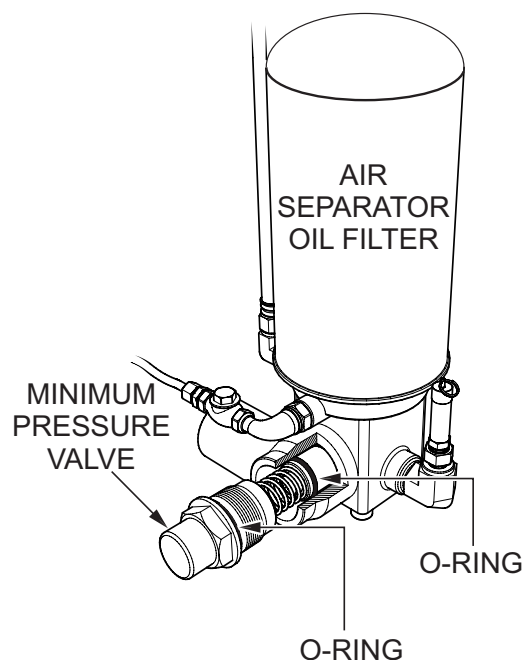

Figure 62. Minimum Pressure Valve
1. Remove the minimum pressure valve (Figure 62) from the air separator oil filter.